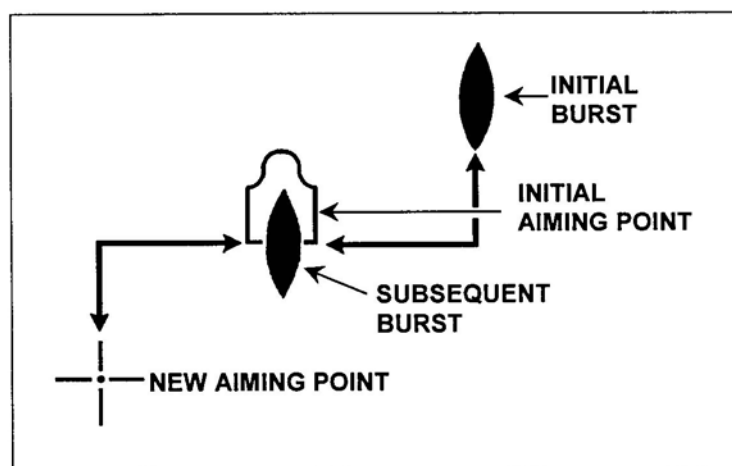

Figure 12. Adjusted aiming point method.
- b. Adjusted aiming point. Use this method to quickly adjust fires without making a sight or T&E adjustment (Figure 12).
- (1) If the initial burst misses the target, rapidly select a new aiming point the same distance from the center of impact of the initial burst but in the opposite direction.
- (2) Lay the gun on that aiming point and fire.